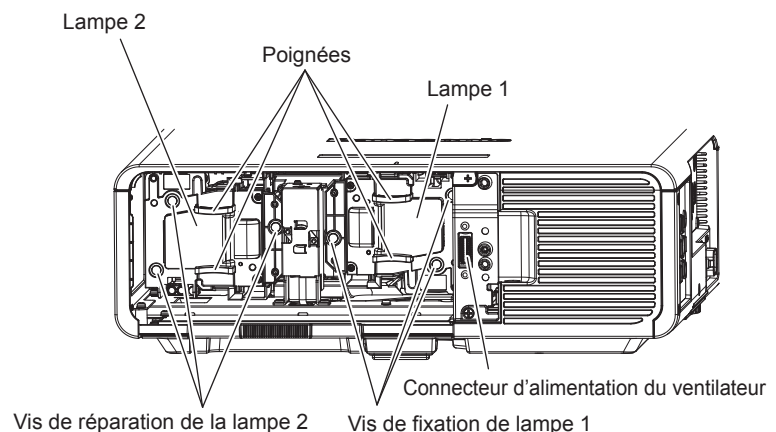

Fig. 2
- 3) Retirez la lampe. (Fig. 2)**